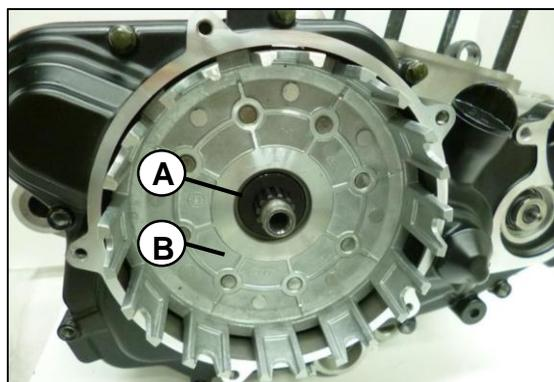

Fig. 09
Retire la arandela (A) manzana cluth retire la manzana cluth (B). **Fig. 09**